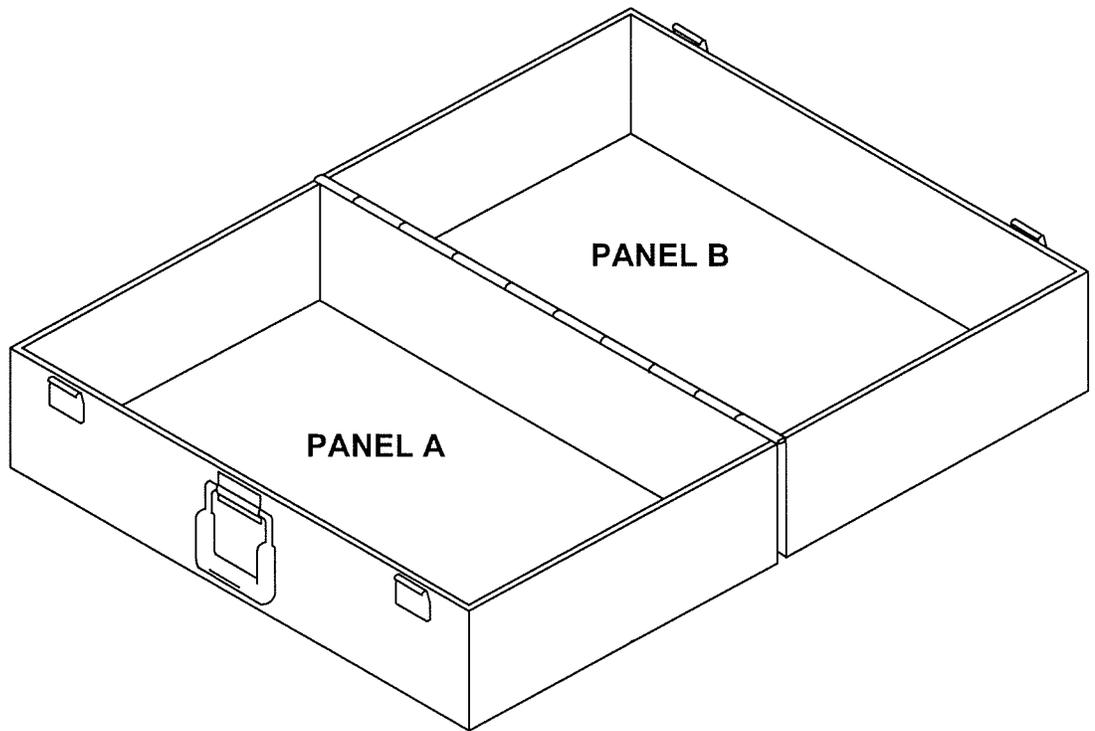

Figure 4-3. Toolbox, Portable Briefcase, Style "A"
- b. The Toolbox, Portable Briefcase, Style "A", Part No. 6SE01085 shown in Figure 4-3, has two panels each measuring 11-1/2 by 18 inches. Approximately 30 tools can be mounted with retainer, spring clips, or a combination thereof. This container of tools is used primarily by troubleshooters in making adjustments and performing minor maintenance tasks.